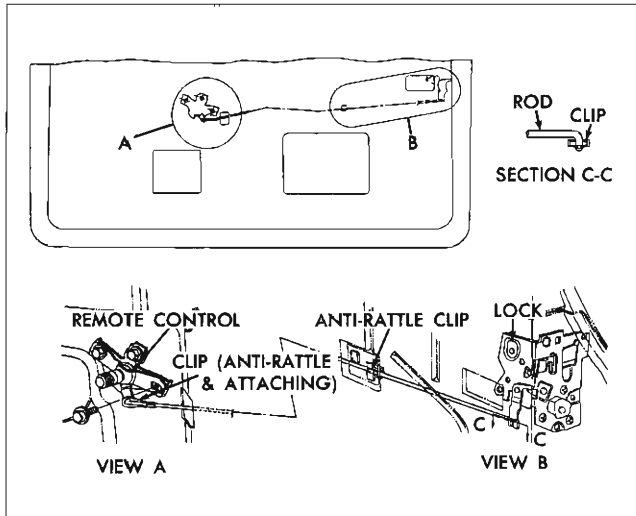

Fig. 3-49 Remote Control and Connecting Rod
2. Remove remote control attaching bolts and remove control from connecting rod (Fig. 3-49).
4. Disengage connecting rod from lock and remove from door (Fig. 3-49).
1. Remove electric window regulator from door and/or rear quarter and clamp securely in vise (Fig. 3-49).